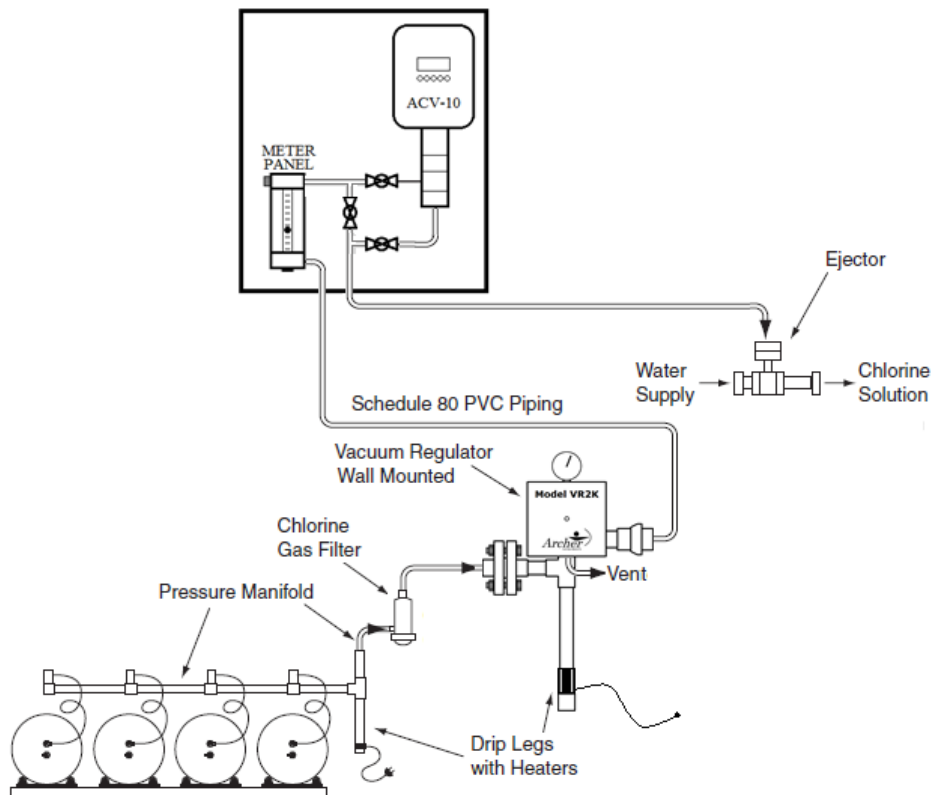

Figure 2
- 6) Refer to Figure 2 for proper gas feed system configurations.